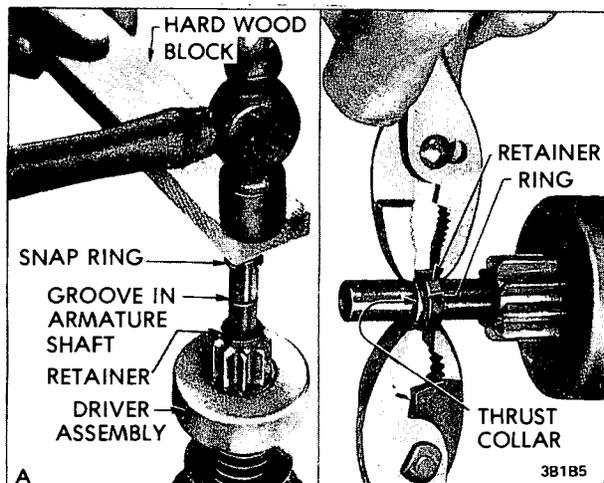

Figure 1B-5 Installing Snap Ring and Retainer
3. Install a new snap ring in groove on armature shaft using a block of hard wood and hammer to get it started onto shaft. See Figure 1B-5.
4. Slide thrust collar onto shaft, move snap-ring retainer up to snap-ring and using pliers on opposite sides of the shaft, squeeze retainer and thrust collar until the retainer is forced over the snap-ring. See Figure 1B-5.